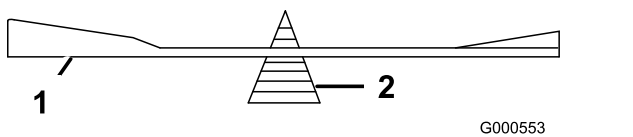

Figure 69
2. Check the balance of the blade by putting it on a blade balancer (Figure 69).